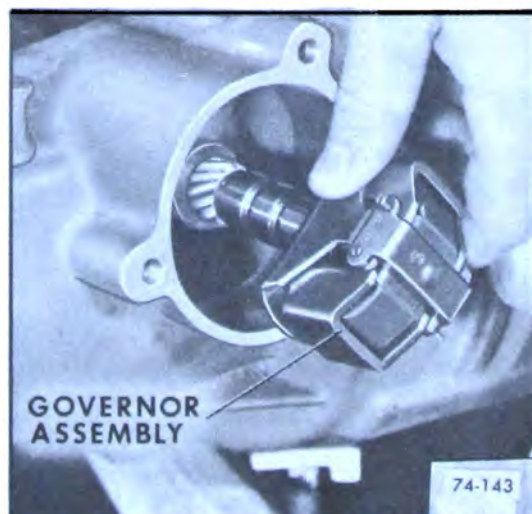

Figure 74-143
2. With a twisting motion slide governor assembly out of its bore in case. See Figure 74-143.